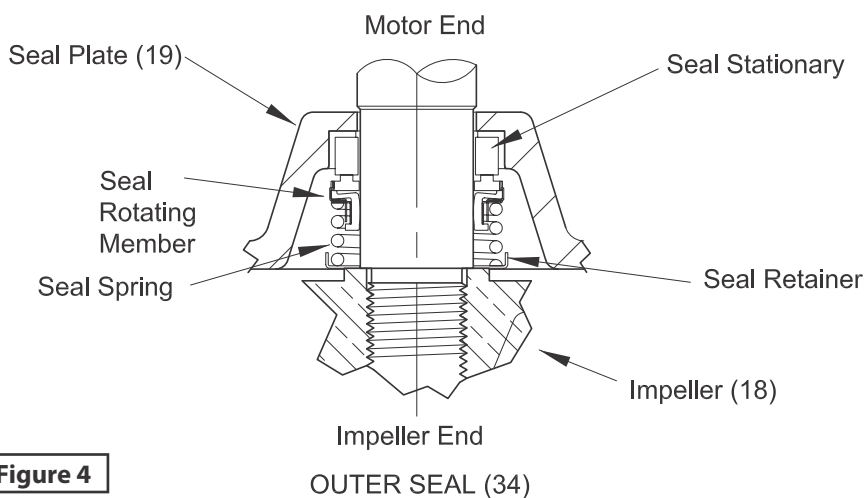

Figure 4
Press stationary firmly into seal plate (19) using a seal pusher tool. Be sure the stationary member is in straight. Nothing but the seal tool is to come in contact with seal face. (Figure 4)